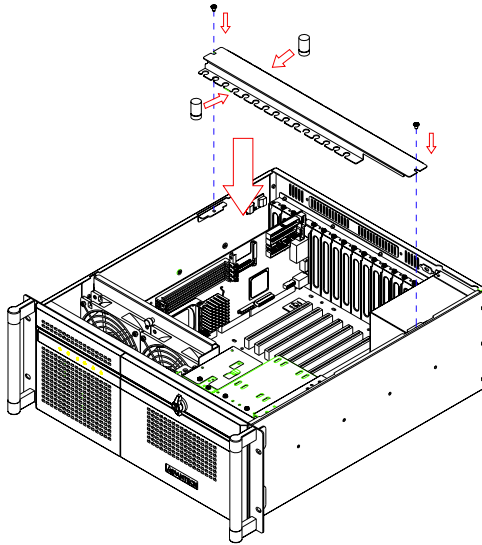

Figure 2.6: *Installing rubber cushions and hold-down clamp*
- There are two rows of notches on both sides of the hold-down clamp for inserting into rubber cushions provided. One side is for PCI cards, while the other side is for ISA cards. Depending on the card height, the cushions can be inserted upward or downward. After the rubber cushions have been inserted into the notches, they will stabilize the add-on cards to protect them from shock and vibration. (see *Figure 2.6*)